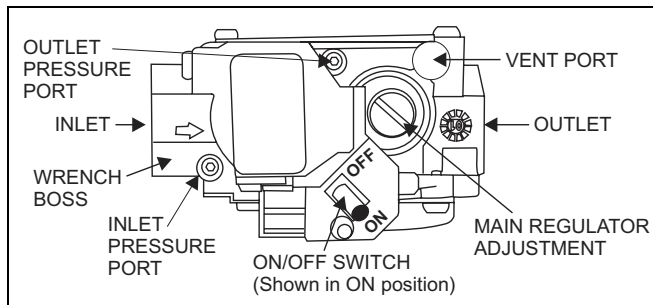

FIGURE 1 - Single Stage Gas Valve
Manifold gas pressure may be measured by two different procedures. It may be measured with the burner box cover in place or it may be measured with the burner box cover removed. Follow the appropriate section in the instructions below. Refer to Figure 1 or 2 for a drawing of the locations of the pressure ports on the gas valve.
Inlet and manifold gas pressure may be measured by connecting the "U" tube manometer to the gas valve with a piece of tubing. Follow the appropriate section in the instructions below. Refer to Figure 1 for a drawing of the locations of the pressure ports on the gas valve.
Connect the positive side of the manometer to the IN P Tap on the gas valve. Do not connect any tubing to the negative side of the manometer, as it will reference atmospheric pressure. Refer to Figure 1 for connection details.
1. Refer to Figure 1 for location of pressure regulator adjustment cap and adjustment screws on main gas valve.
1. Refer to Figure 1 or 2 for location of pressure regulator adjustment cap and adjustment screw on main gas valve.